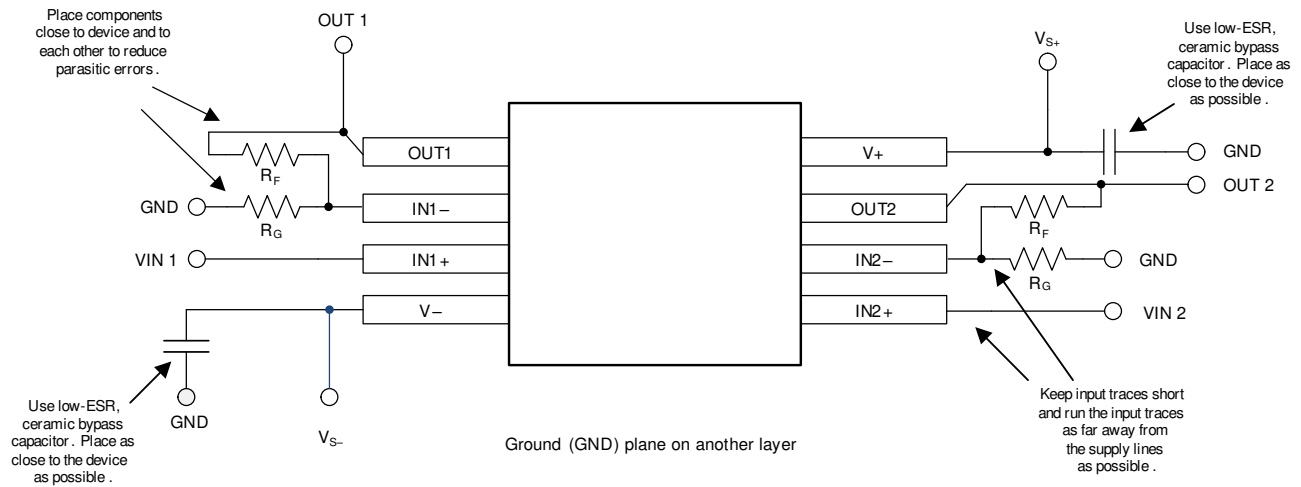

图 45. Layout Example
- Place the external components as close to the device as possible. As illustrated in 图 45, keeping R_F and R_G close to the inverting input minimizes parasitic capacitance on the inverting input.